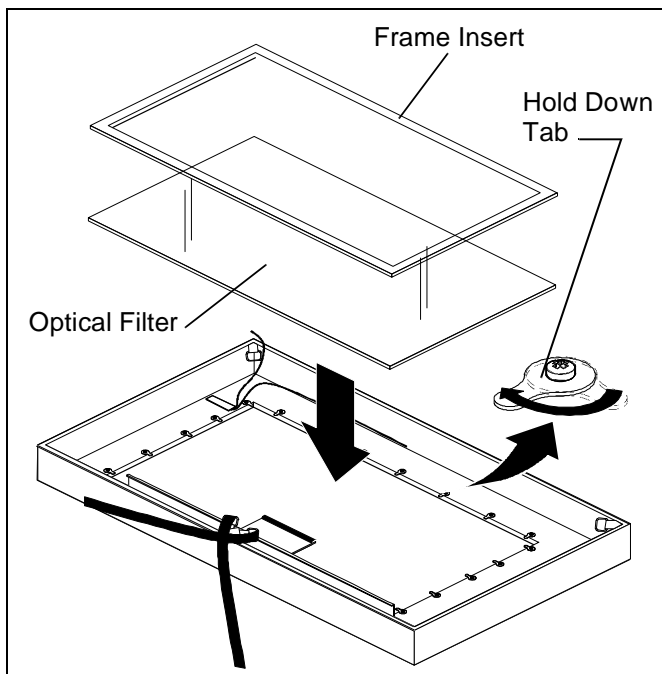

Figure 11
4. Carefully install optical filter into frame. (See Figure 11)
6. Turn hold down tabs until positioned over lens. (See Figure 11)